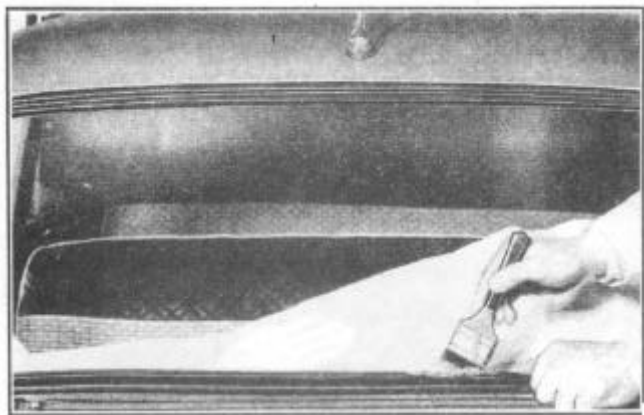

FIGURE 50
**NOTE:** With the weatherstrip properly in place over the windshield opening pinchweld brush the weatherstrip thoroughly with a solution of liquid soap and water before installing the new glass, as shown in Figure 50.